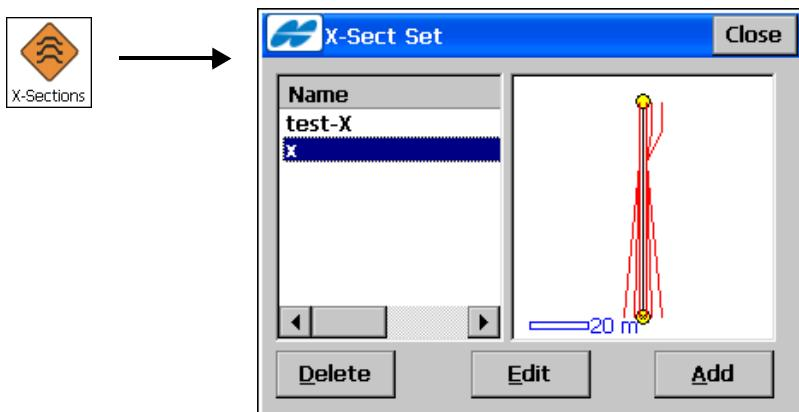

Figure 7-26. Cross Section Set
The **X-Sect Set** screen (Figure 7-26 on page 7-27) contains a list of cross -section sets and a general scaled view of the highlighted cross section set.
- **Edit** – opens the **Edit X-Sect Set** screen, displaying properties of the selected cross section set (Figure 7-26).